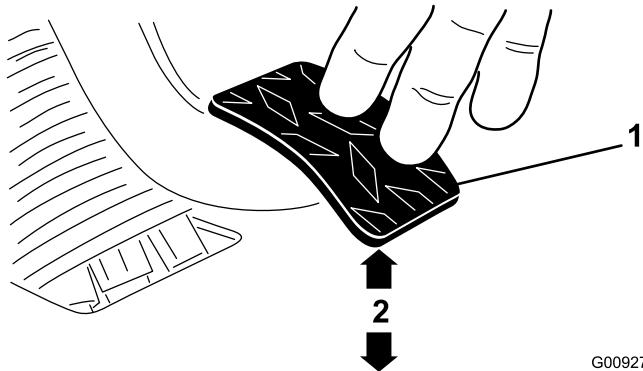

Figure 58
3. Adjust the jam nuts or ball joint until the back, rear edge of the clutch pedal is 9.5 ± 0.3 cm (3.75 ± 0.12 inch) from the top of the floor plate diamond pattern, when an 1.8 kg (4 lb) force is applied to the pedal (Figure 58).